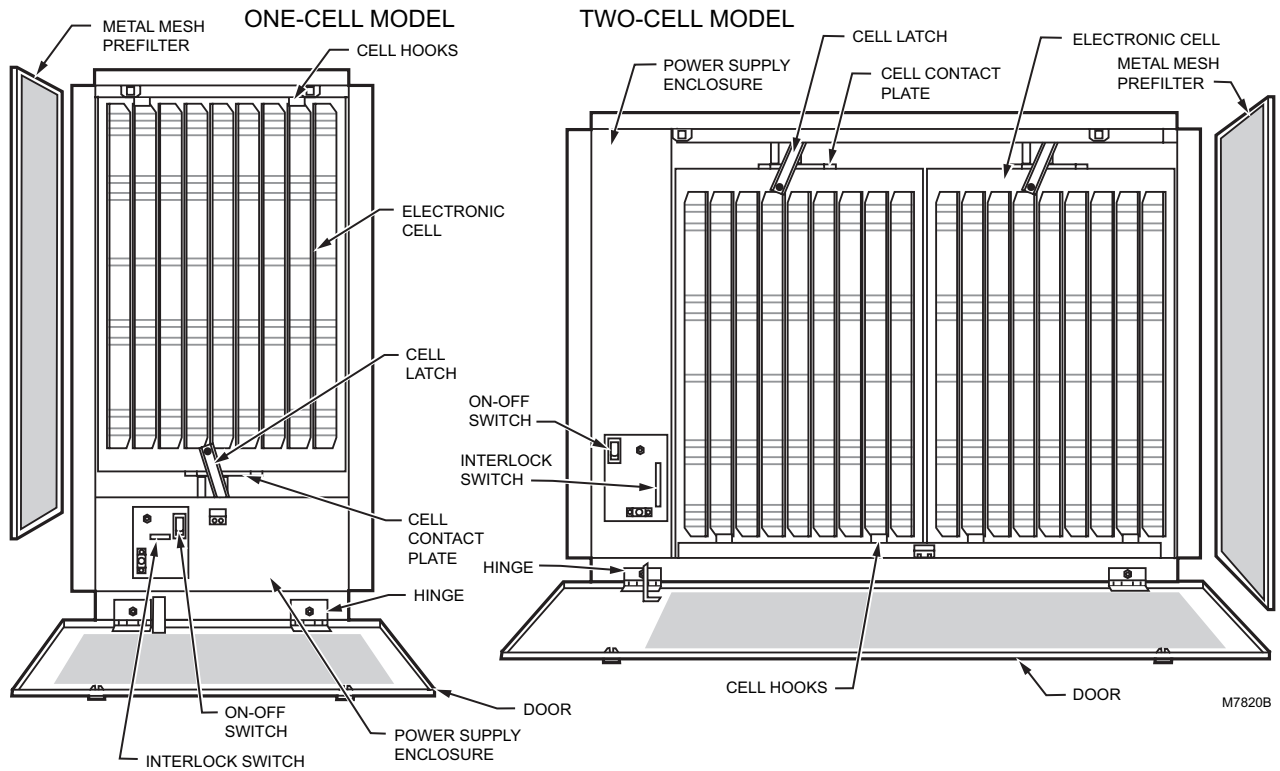

Fig. 4. Internal components of F52F Electronic Air Cleaner.
The front door of the electronic air cleaner is hinged to provide access to the internal components. See Fig. 4.
2. Lift out and set aside the door/grille assembly and the prefilter. Turn the cell latch (Fig. 4) toward the air cleaner cabinet and remove the electronic cell(s), lifting from the side nearest the latch. Set aside.